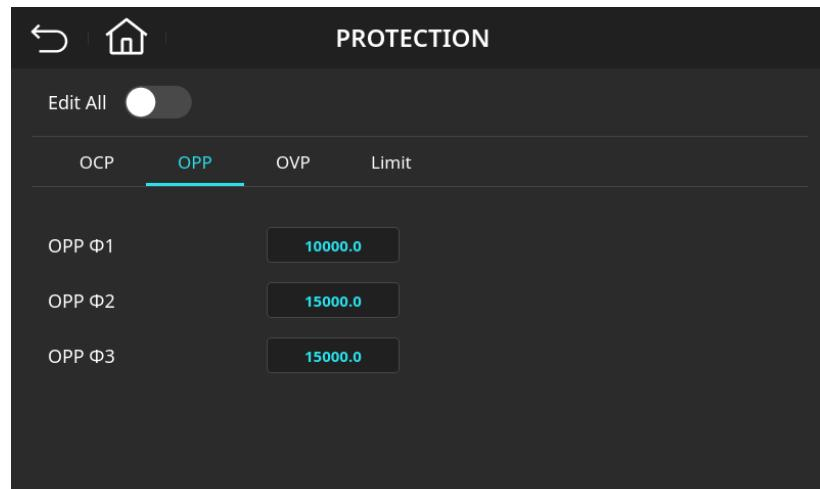

Figure 4-55 Output Overpower Protection Page (OPP  $\Phi 1 = 10000.0$  VA))
4. Enter **1, 0, 0, 0, 0** then press **Enter** to change the value to “10000.0”, as shown in Figure 4-55.